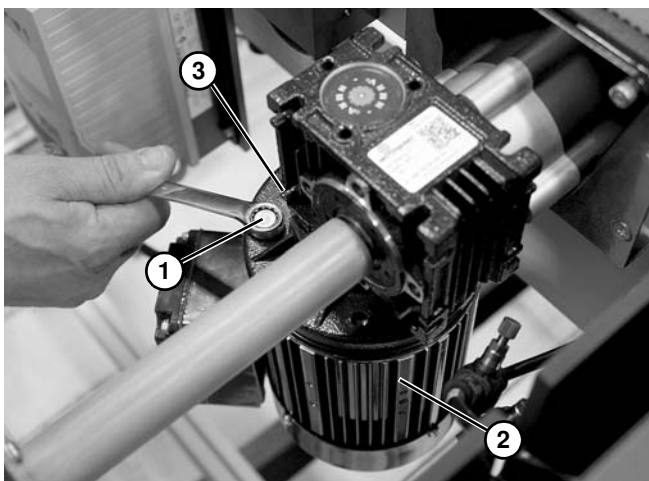

Figure 27
1. Remove hex flange screws (**Figure 27, item 1**) connecting the motor (**Figure 27, item 2**) to the gear reducer (**Figure 27, item 3**).